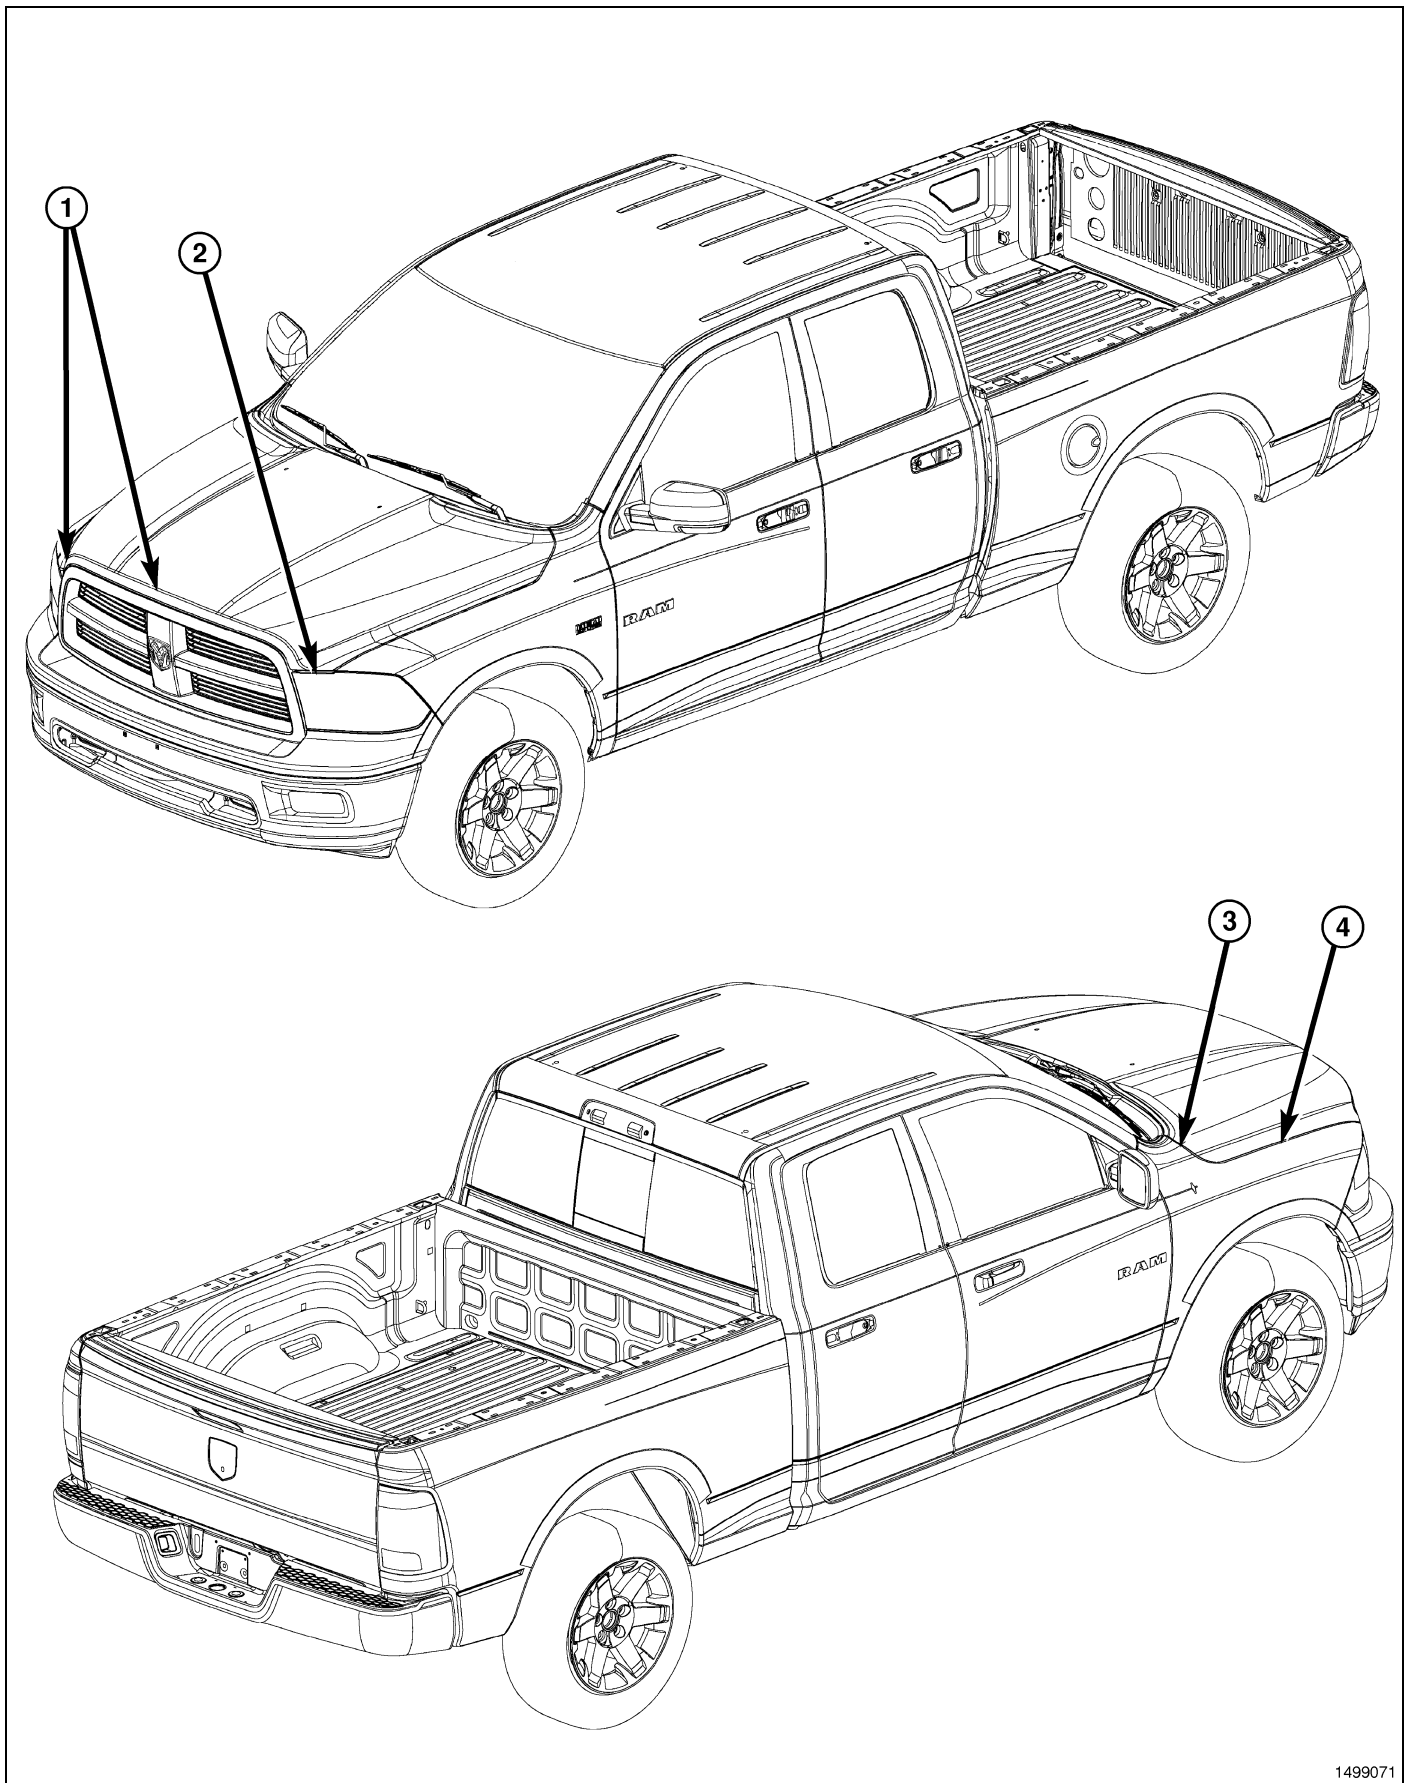

Fig. 1 QUAD CAB
NOTE: Quad Cab shown in Fig. 1, Regular Cab and Crew Cab similar.
10. Adjust the hood to the correct position, refer to Fig. 1 and the flushness chart. Once the hood is positioned properly, tighten the hood hinge nuts (1) to 18 N·m (13 ft. lbs.).
11. Connect the underhood lamp connector (1) and the wire harness retaining clips. (2).